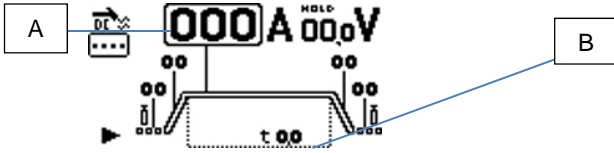

Fig.5
**SPOT WELDING** Select the welding current (fig. 5 ref. A) and the spot welding time (fig. 5 ref. B), turning encoder **S1** to select the required parameter and pressing it to set the values. For this welding method, press the button on the torch and the arc ignites; the arc is extinguished automatically at the end of the set spot welding time. To do the next spot, release the torch button and then press it again.